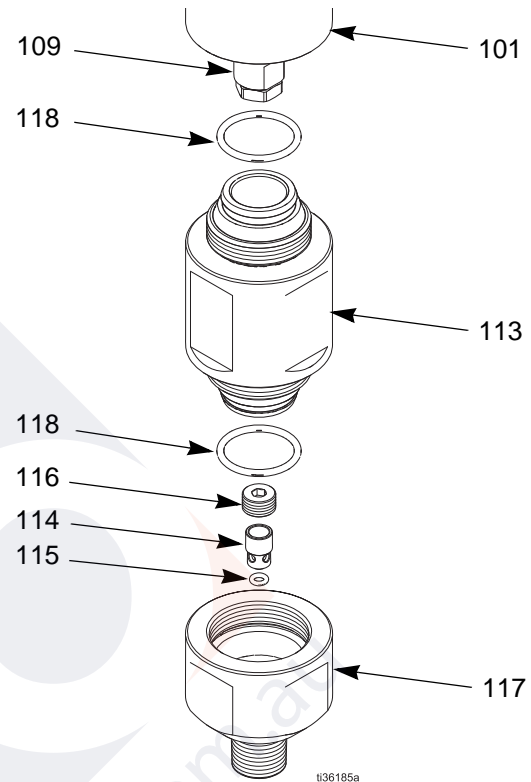

FIG. 6
15. Apply petroleum-based lubricant to the fluid plunger (109) and install into the fluid cylinder (101).
16. Inspect and replace the cylinder o-ring (115), as required, and insert the cylinder poppet (114) into the cylinder cap (117) as shown in FIG. 6. Install the check retainer (116). Torque to 10 ft-lbs (14 N•m).
17. Install the cylinder cap (117) onto the lower fluid cylinder (113). Torque to 100 ft-lbs (136 N•m).
18. Install the packing nut shim (105) and torque the packing nut (106) to 20 ft-lbs (27 N•m).